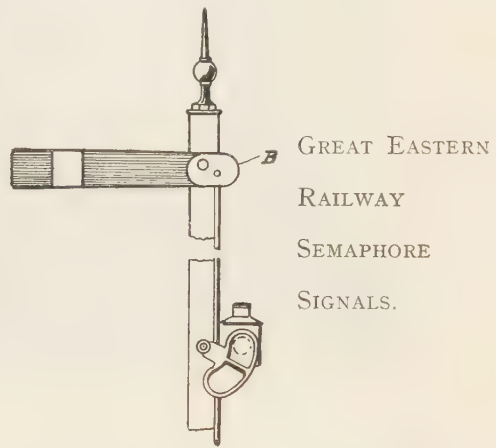

FIG. 15.—HOME SIGNAL ON TALL POST, WITH LAMP AT LOWER LEVEL.
In cases where a very high post is erected, with the lamp at a lower level (Fig. 15), an extended spindle casting (B) is fitted, in order that the arm may balance itself correctly at danger should the vertical connecting-rod break. It may be added here that it is an essential feature of signal construction that the arm should be so designed and balanced that it would immediately return to danger in the event of the breakage of either the wire from the box, or the rod on the post. The principal counterweight to the arm is, of course, the front spectacle; the back-light spectacle also acts as a balance weight, but it is not wise to regard this as a permanent counterweight, seeing that it is not invariably fitted. The weight of the rod and the balance-weight at the foot of the post when fitted serve to counterbalance the slack on the wire from the box. The longer the wire, especially in the case of distant signals, and worst when it has to work round sharp curves, the heavier the balance-weight required.